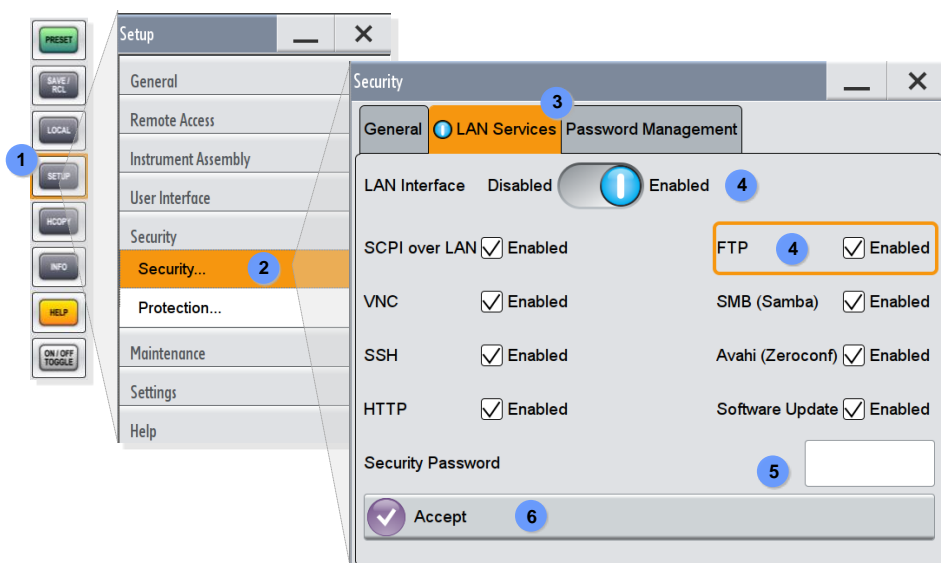

Figure 14: Enabling of ftp-Access to SMW File System
② In advance of granting ftp access to its file system the SMW requests the 'User name' and the related 'Password'. Both parameters are set to 'instrument' by default. The assigned password can be changed via the SMW 'Security' menu (see *Figure 14*, step ②, Password Management).
③ The ftp connection will be established by pressing the 'Log On' key.